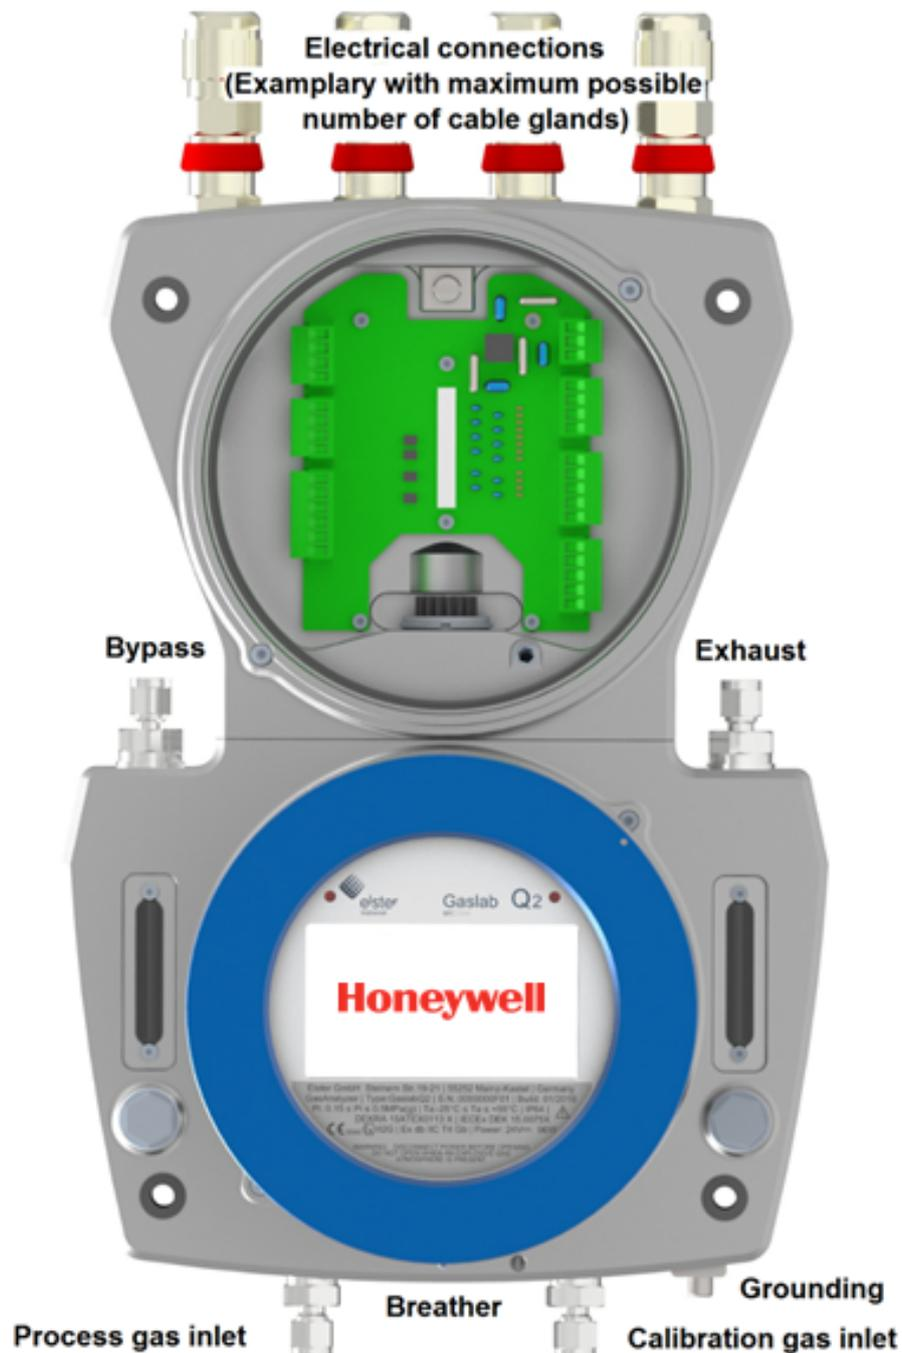

Fig. 3-2: Overview of connection section / connection points
The housing must be grounded or connected to the local potential equalization. For this purpose, there is an earthing and equipotential bonding screw (GROUND) on the bottom next to the calibration gas inlet. A further functional grounding point (FE) is in the connection box in the upper recess of the board. See Figure 3.2.